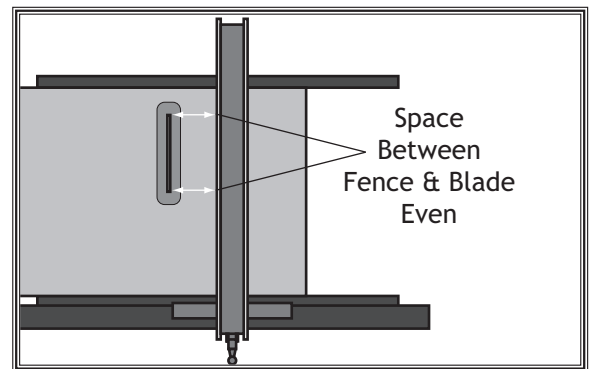

Figure 108. Example of fence aligned parallel to miter slot.
6. Rotate the blade to the other end of the table insert (see **Figure 108**), and recheck the distance between the fence and the blade to ensure they are parallel.